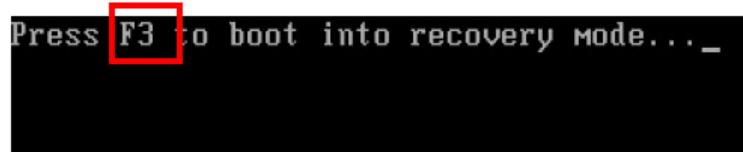

Figure B-10: Press F3 to Boot into Recovery Mode
**Step 1:** Turn on the system. When the following screen displays (Figure B-10), press the <F3> key to access the recovery tool. The message will display for 10 seconds, please press F3 before the system boots into the operating system.